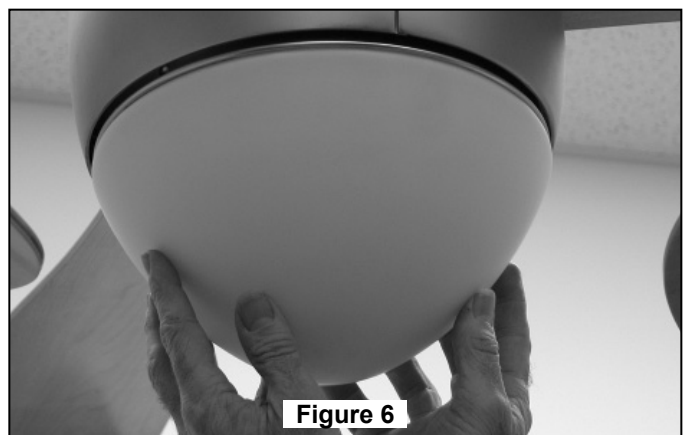

Figure 6
10. Route wires through opening in Canopy. Position Canopy on fan shown with open side facing up. (Figure 6)
12. While pulling up on the hanger ball, securely tighten the two 3/16-24 x 3/8" setscrews in the downrod support. (Figure 6)
6. Securely attach Lower Glass by twisting onto the Adapter Plate. Don't overtighten or force it. (Figure 6)